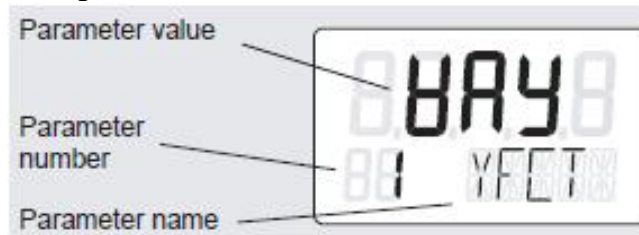

FIGURE 9 Sample PS2 Configuration Mode Display
7. If "NOINI" is flashing on display, skip to step 12, otherwise go to step 8. A typical configuration mode display is shown in Figure 9.